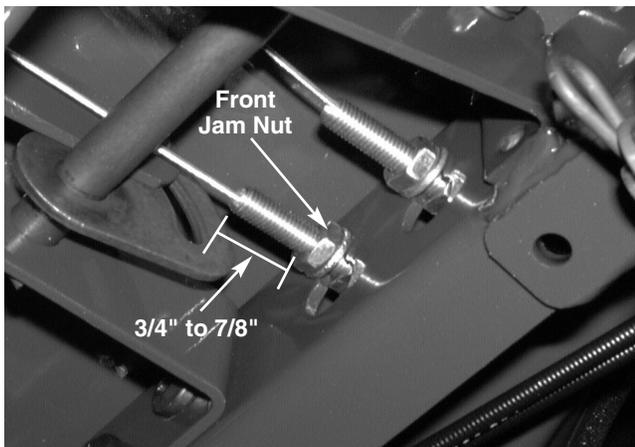

FIGURE 2.
- 8). By hand, tighten the front jam nut until the threaded cable end is exposed 3/4 to 7/8" past the front face of the front jam nut. See figure 2.